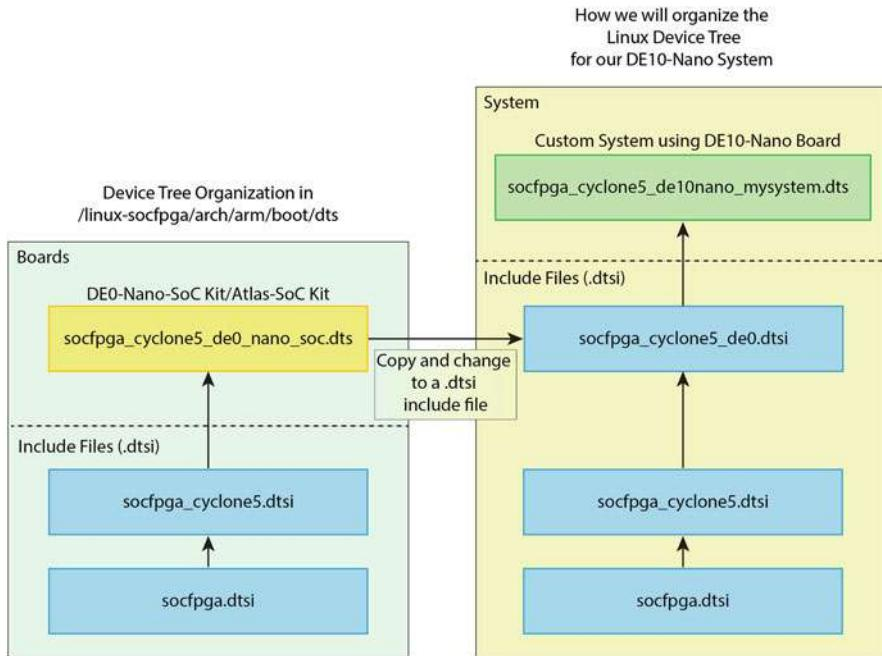

Fig. 9.10: Device tree source file hierarchy
These files are organized in a hierarchy as shown in Fig. 9.10 (left side). The Intel SoC FPGA devices have a base include file `socfpga.dtsi` that describes the hard processor system (HPS) that is common across these SoC FPGA devices. The Cyclone V SoC FPGA devices use the base `socfpga.dtsi` device tree hardware description by including this file (which is why it is called an include file and why it has the `.dtsi` extension). The information specific to the Cyclone V SoC FPGA is placed in the `socfpga_cyclone5.dtsi` file, which is also an include file. Thus include files can include other include files. When include files are organized this way, device tree information can be overlaid (added or overwritten) over the information that was pulled in earlier. Then there is specific board information, which in the case of Fig. 9.10 (left side) is the `socfpga_cyclone5_de0_nano_soc.dts` file that is the device tree file for the DE0-Nano-SoC or Atlas-SoC board.
- Step 1: Turn the de0\_nano\_soc board .dts file into a .dtsi file that we will include in our device tree source file (as illustrated in Fig. 9.10).